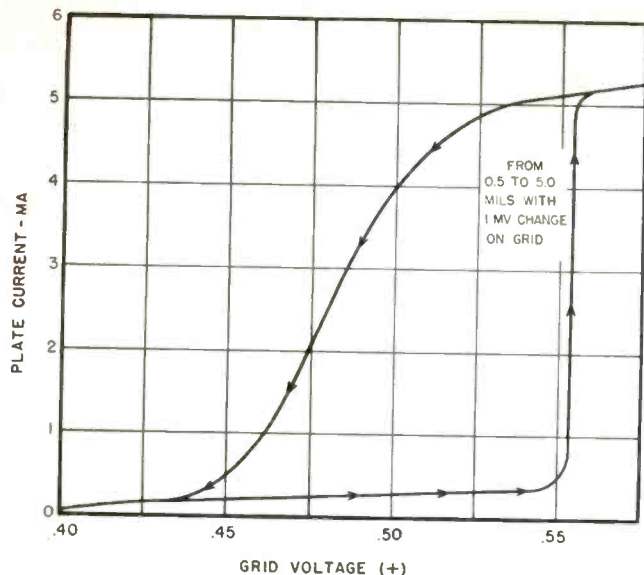

Fig. 3. Curve showing d-c G_m of 4.5 Mho.
The input transformer, T_1 , is designed to work across a terminated line, which means that the apparent source impedance is one-half the nominal line impedance. Referring to Fig. 3, (A) shows a transformer working from a 600-ohm line, without a resistive termination. This arrangement does not terminate the line correctly for many circuits, and often results in a frequency response of the preceding equipment which differs from that measured into a resistance load. Some transformers, especially those at the input of a microphone preamplifier, are designed to operate from an open circuit, and similarly most microphones are intended to work into an unloaded transformer winding. Other transformers are designed to work with a resistance termination on the secondary, as at (B), but this often causes a reduction in high-frequency response. The transformer used in this amplifier was designed to work across a resistive termination, so the apparent source impedance is one-half the line impedance, as shown at (C).